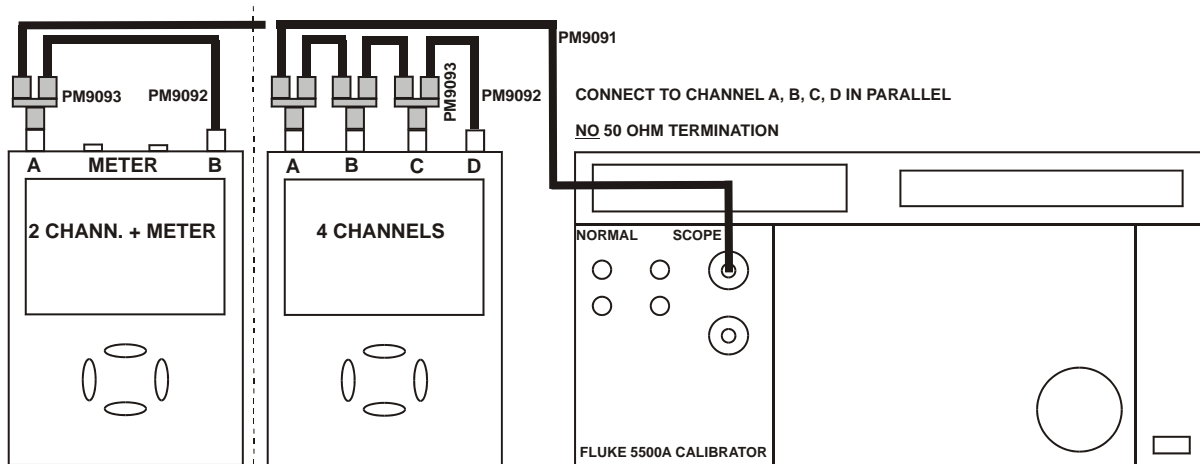

Figure 5-15. Test Tool Input ABCD to 5500A SCOPE Output
2. Connect the Test Tool to the 5500A as shown in Figure 5-15.